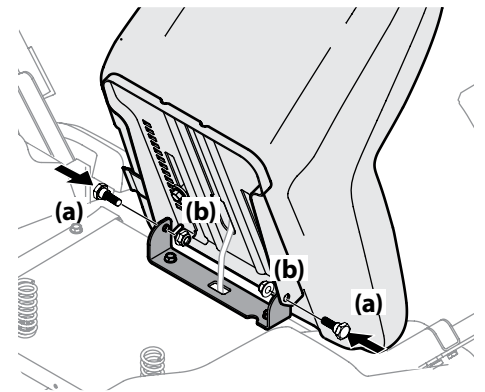

Figure 2-4
- Rotate the seat into position and secure the seat into place with the previously removed shoulder screws (a) and lock nuts (b). Be careful not to crimp or damage the wire harness while installing the seat. See Figure 2-4.